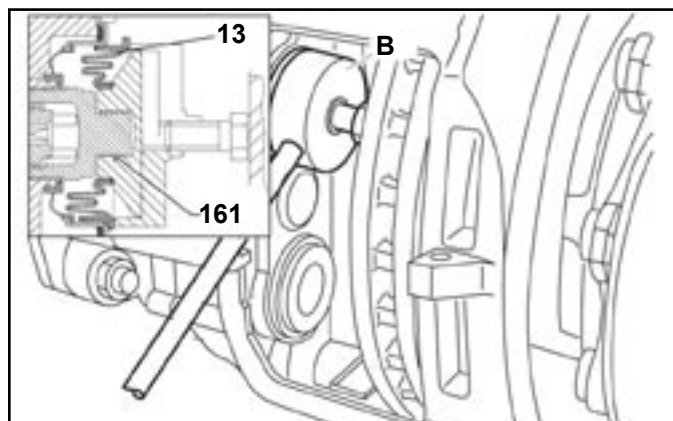

FIGURE 43 - ON VEHICLE BOOT INSTALLATION
- Install the boots using the press-in tool (B) with the short press-in extension (T3) for positioning and pressing into place - see Figure 43.
- Install the boots using the press-in tool (B) with the long press-in extension (T3 + T4) for positioning and pressing into place - see Figure 43.